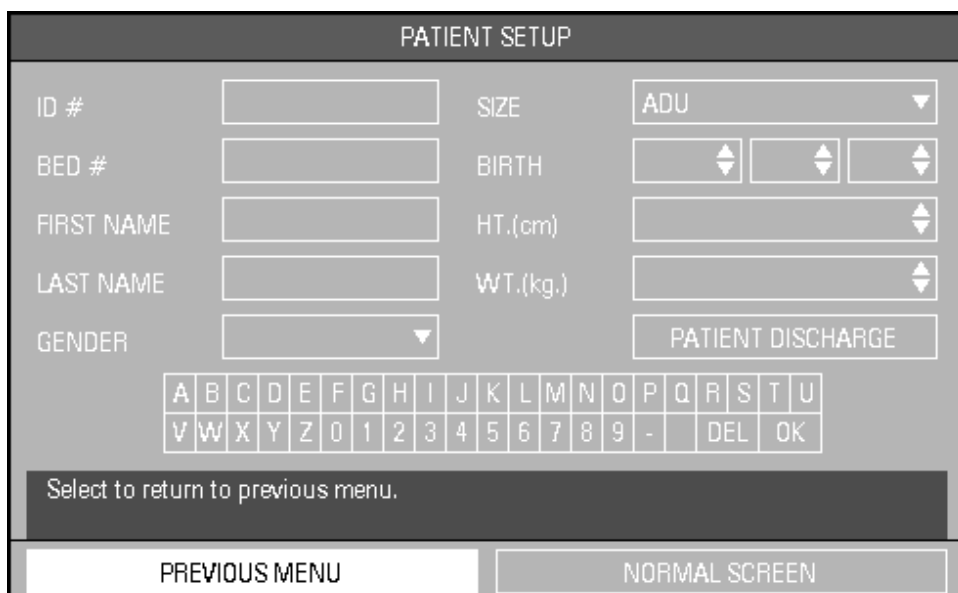

FIGURE 2-2 Patient Setup Menu
- b. From the **SYSTEM MENU**, select **PATIENT SETUP**. The **PATIENT SETUP** menu (FIGURE 2-2) is displayed.
Select **PATIENT SETUP** from the **SYSTEM MENU**. The **PATIENT SETUP** menu (FIGURE 2-2) is displayed.